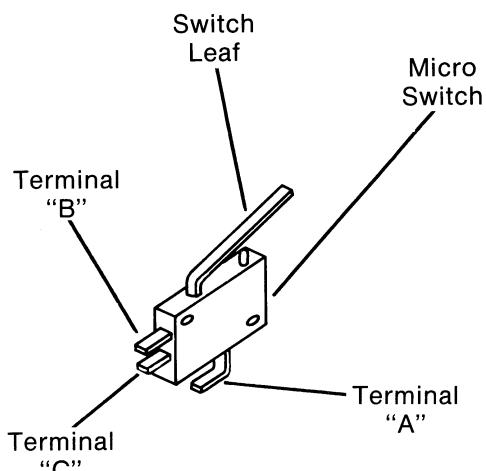

FIG. 39
E. Test shift lever micro switch by moving shift lever in REVERSE and tag and remove all wires from switch. Test switch for continuity as follows: (Fig. 39)